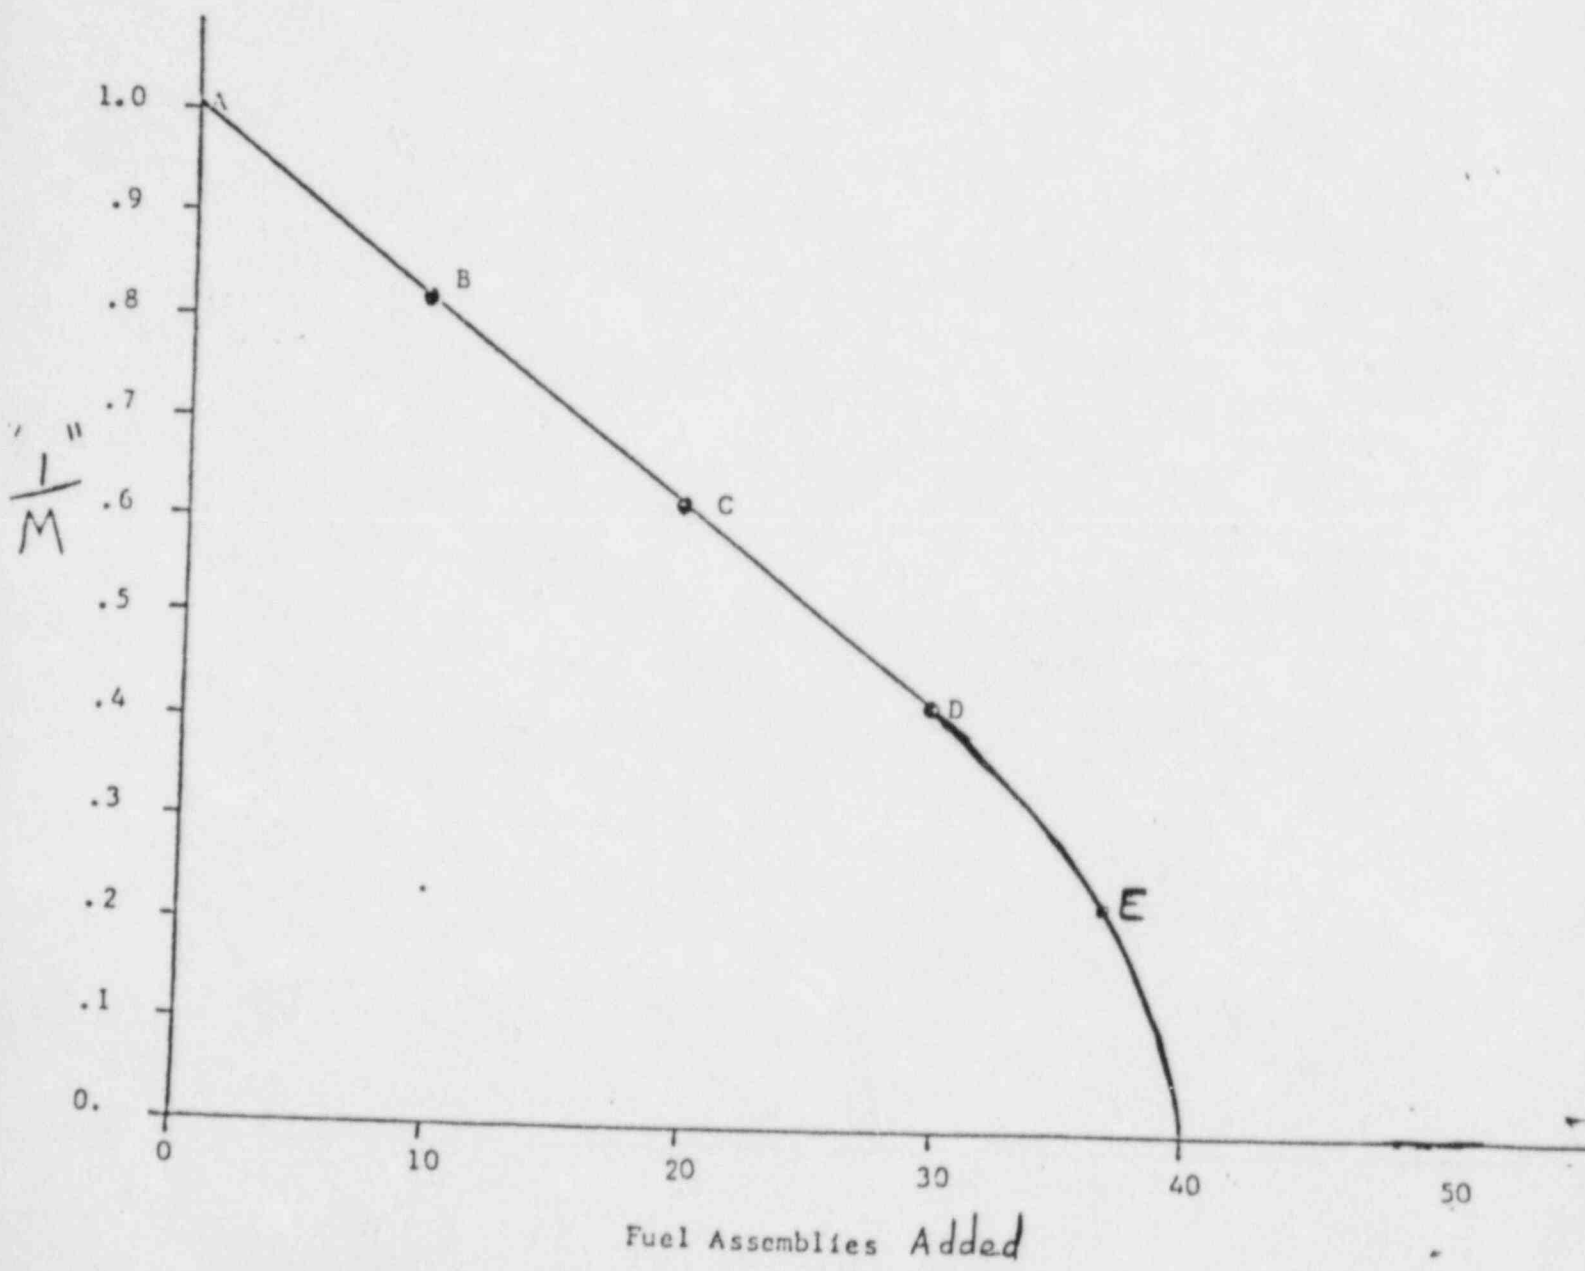

Figure 1: $\frac{1}{M}$ Plot
A refueling is being conducted following removal of many fuel assemblies to locate a foreign object in the bottom of the vessel. As the fuel assemblies are replaced, the neutron count rate increases as shown in Fig. 1.
- (a) Define "M" in Figure 1. (0.5)